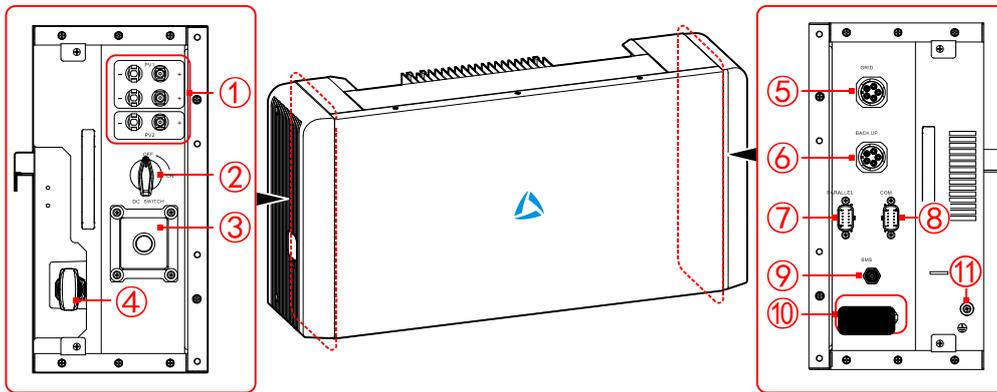

Figure2-7 Structure layout of inverter
DC switch (as shown in of Figure2-7 ②) is the connection switch between inverter and PV array.